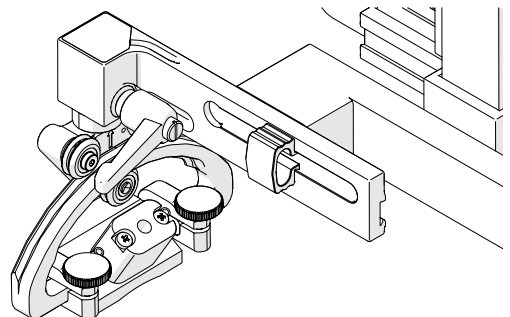

Fig. 210 - Probe/wedge affixed to probe holder
5. Mount the probe/wedge (Fig. 210) to the long stroke vertical probe holder (see *"Probe Holder Setup"* on page 96).